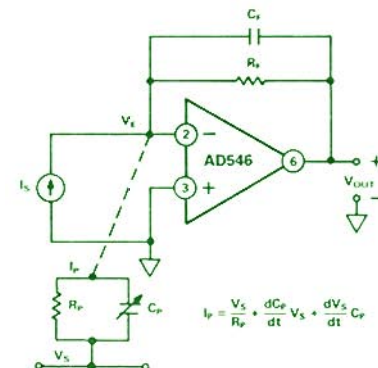

Figure 1. Sources of parasitic leakage current.
The industry's fastest monolithic FET-input op amp, the AD843,* slews at 250 V/ μ s and has a 34-MHz unity-gain bandwidth. Not sacrificing precision for speed, the amp features a paltry 120-pA input bias current but quickly settles to within 0.01% in 130 ns for a 10-volt step (Figure 1). A member of the AD84X family* of high-speed operational amplifiers (see *Analog Dialogue* 22-2, 1988, pp. 12-15), the AD843 is fabricated using Analog Devices' junction-isolated complementary-bipolar (CB) process. This process permits a combination of dc precision and wideband ac performance previously unattainable in a monolithic FET-input op amp.